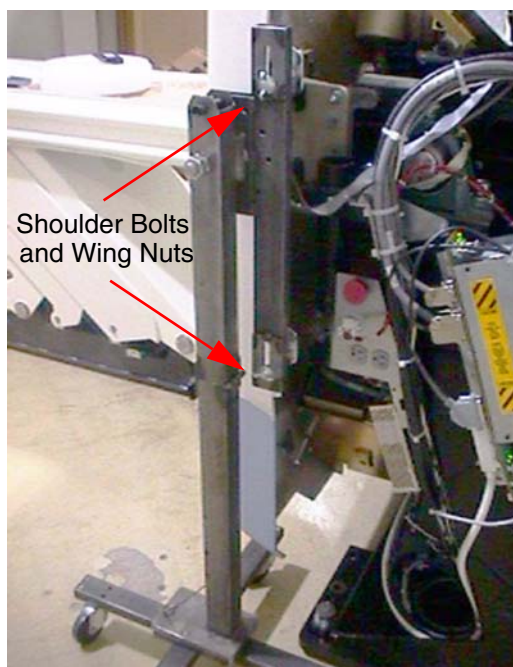

Figure A-8 Front Side Dolly
- a.) Tighten the two (2) shoulder bolts to the gantry securely. This makes cover installation easier (see Figure A-8).